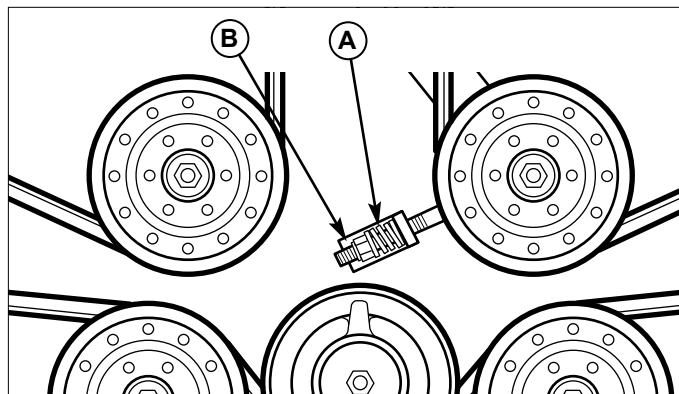

Figure 30. Mower PTO Belt
3. Loosen the spring compression nut (B, Figure 30) to release the belt tension.
6. Install the drive belt on the PTO pulley, the spindle pulleys and idler pulleys. Tighten the spring compression nut (B, Figure 30) until the belt tension spring (A, Figure 30) is 5/8" long.